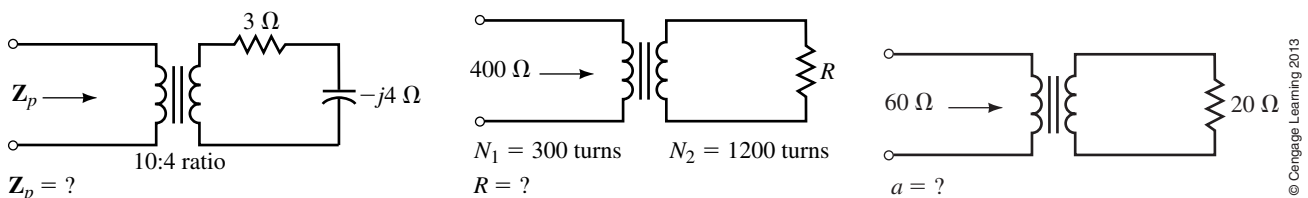

FIGURE 23-34
1. For each of the circuits of Figure 23-34, determine the required answer.